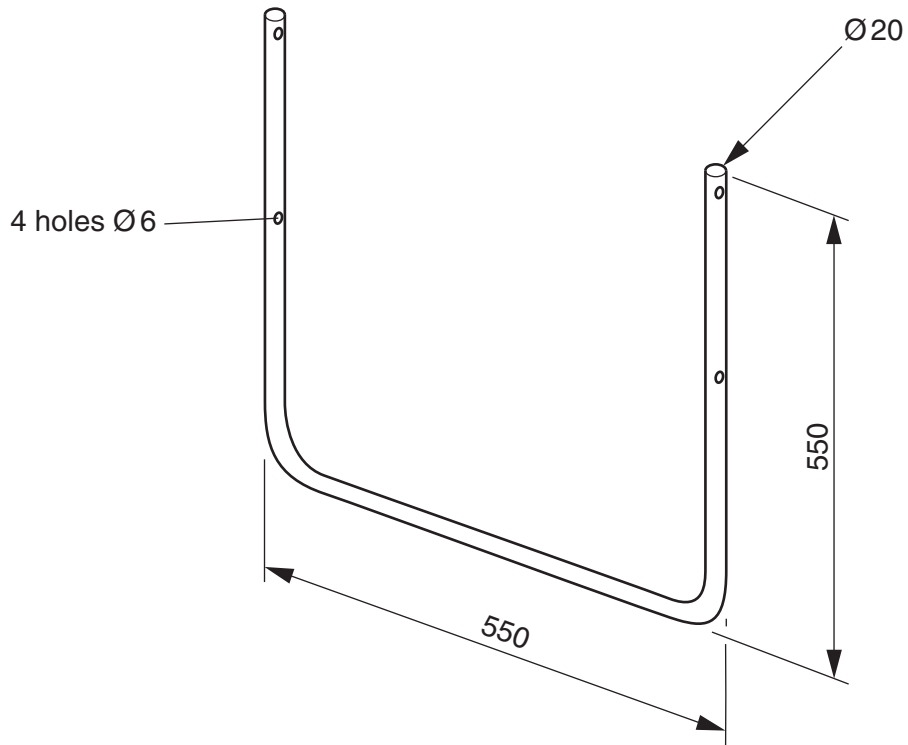

Fig. 7
Fig. 7 shows one of the legs from the picnic table.
- (e) (i) State a **suitable specific material** for the leg shown in Fig. 7. Give **two** properties or characteristics that make the material suitable for this use.
- (ii) Describe, in detail, how the leg shown in Fig. 7 would be manufactured as a batch of 10 000.